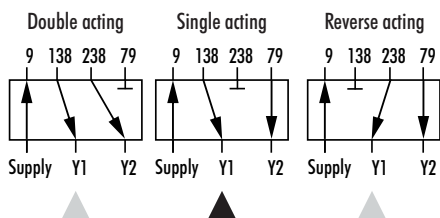
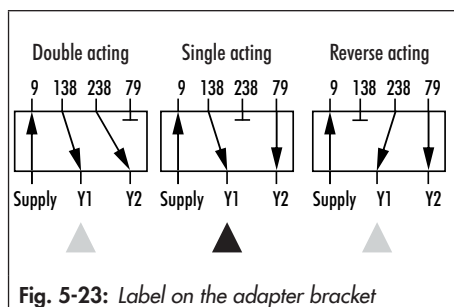

Fig. 5-18: Label on the adapter bracket
Fig. 5-23: Label on the adapter bracket
2. Unfasten the turnboard (7) from the adapter bracket (6).
3. Place the adapter bracket (6) on the positioner and mount using the screws (6.1). Make sure that the O-rings are correctly seated.
4. Place the turnboard (7) on the adapter bracket (6). Make sure that the O-rings are correctly seated.
5. Select the required switching function from Fig. 5-18 by turning the turnboard: an arrow on the turnboard points to the
corresponding switching function (see Fig. 5-18).
5. Select the required switching function from Fig. 5-23 by turning the turnboard: an arrow on the turnboard points to the corresponding switching function (see Fig. 5-18).
6. Take follower pin on the lever (M) out of its pin position and place in position 90°.